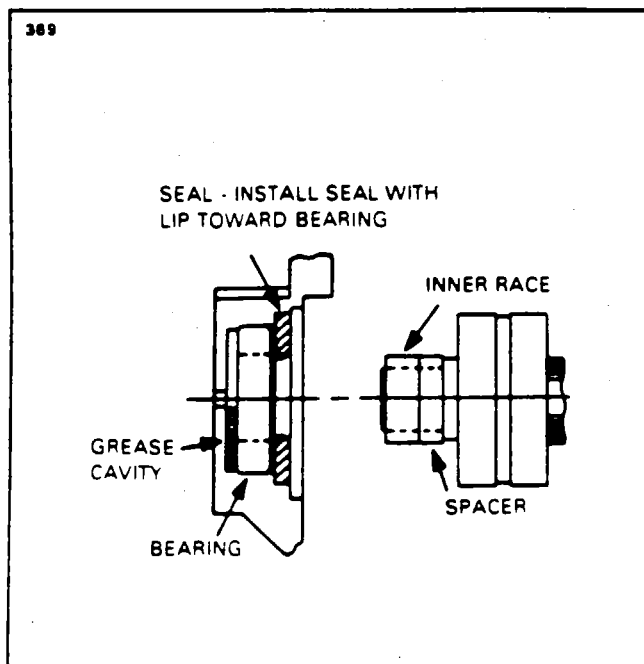

Figure 24-12. Slip Ring End Bearing Assembly
5. Install the slip ring end bearing and oil seal. Make sure the lip of the oil seal is toward the bearing. Stake the seal in place. Correct assembly of bearing, seal, inner race and spacer as shown in Figure 24-12.